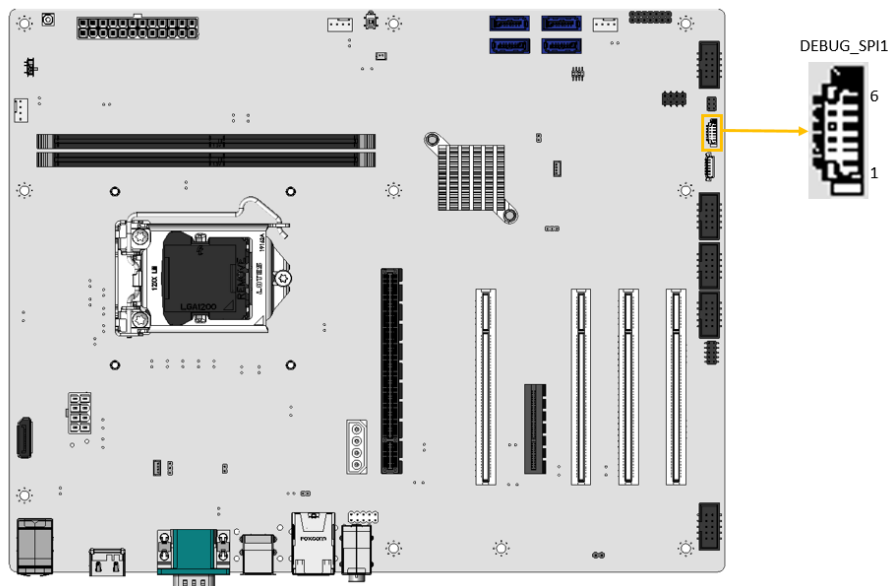

Figure 3-8: EC Debug Connector Location
- CN Location:** See Figure 3-8